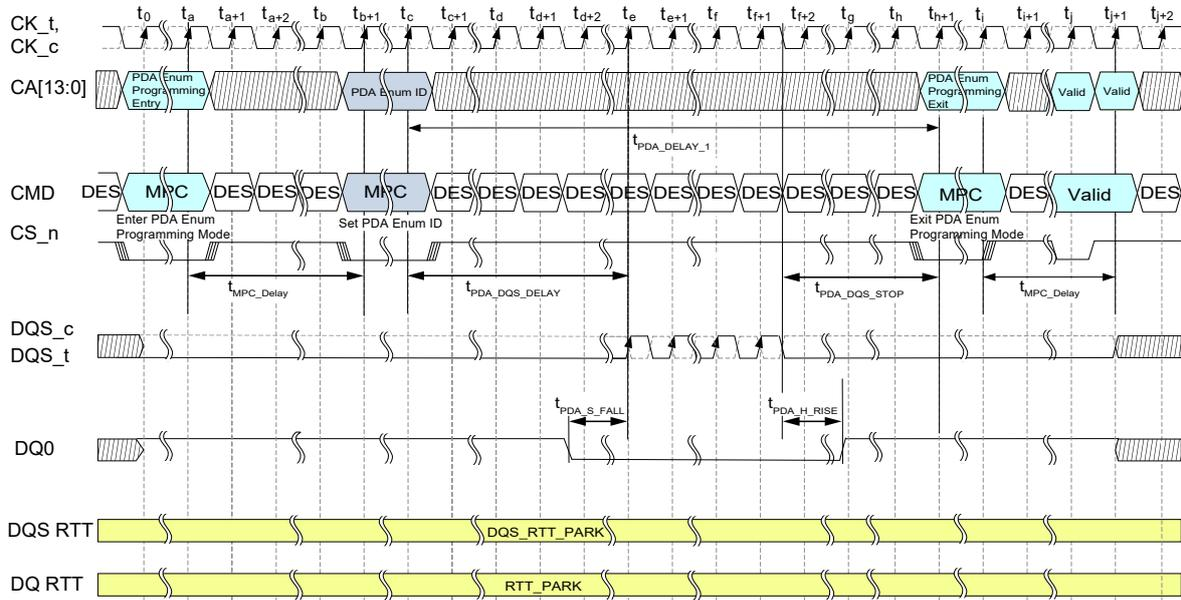
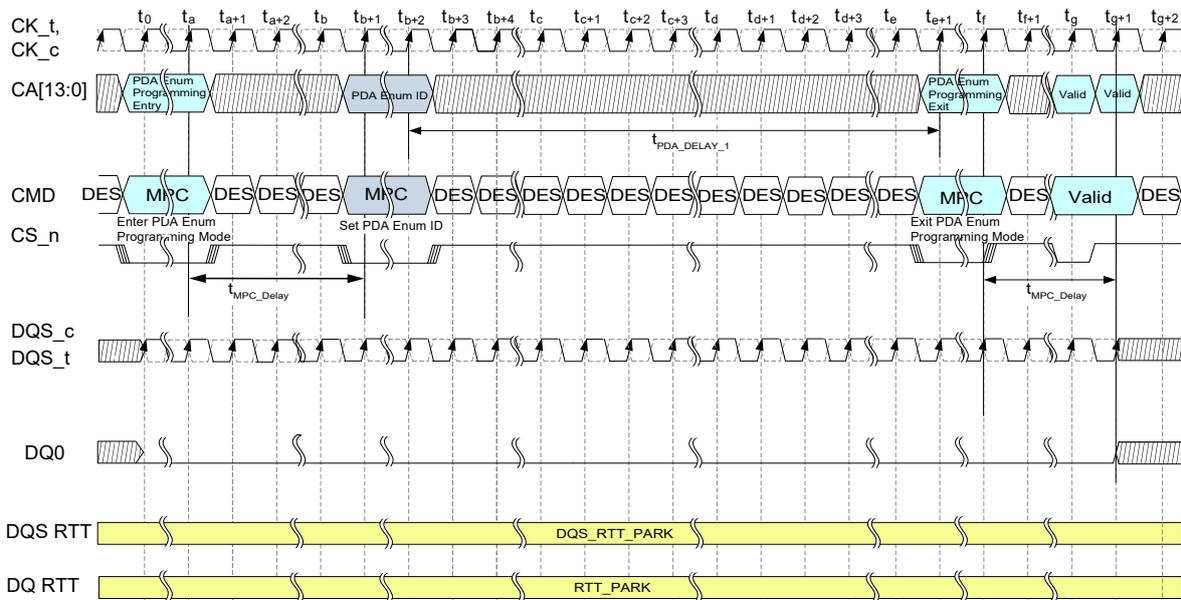
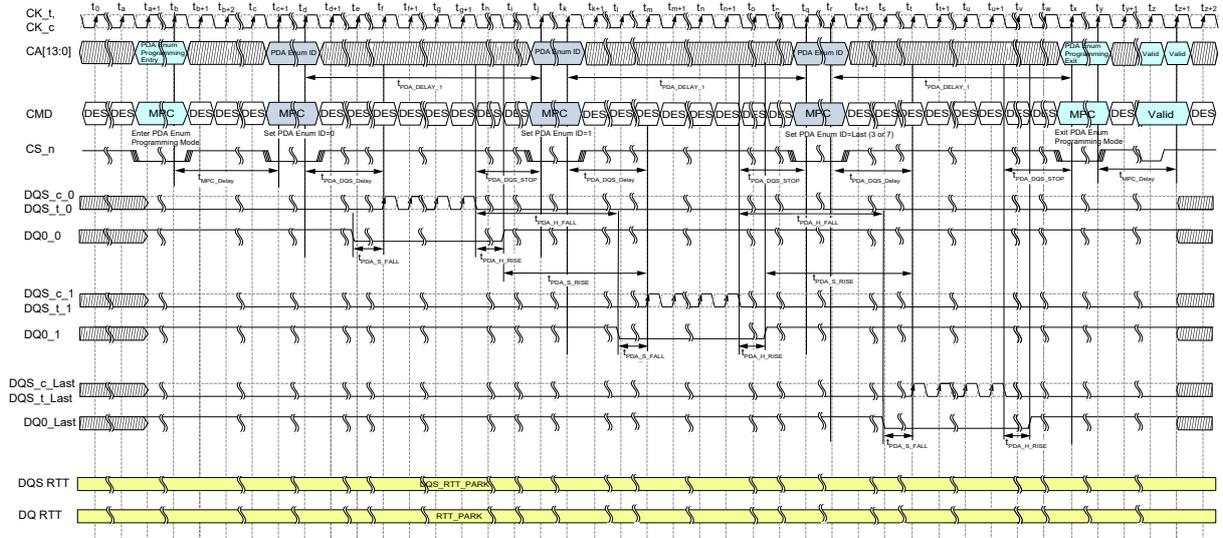
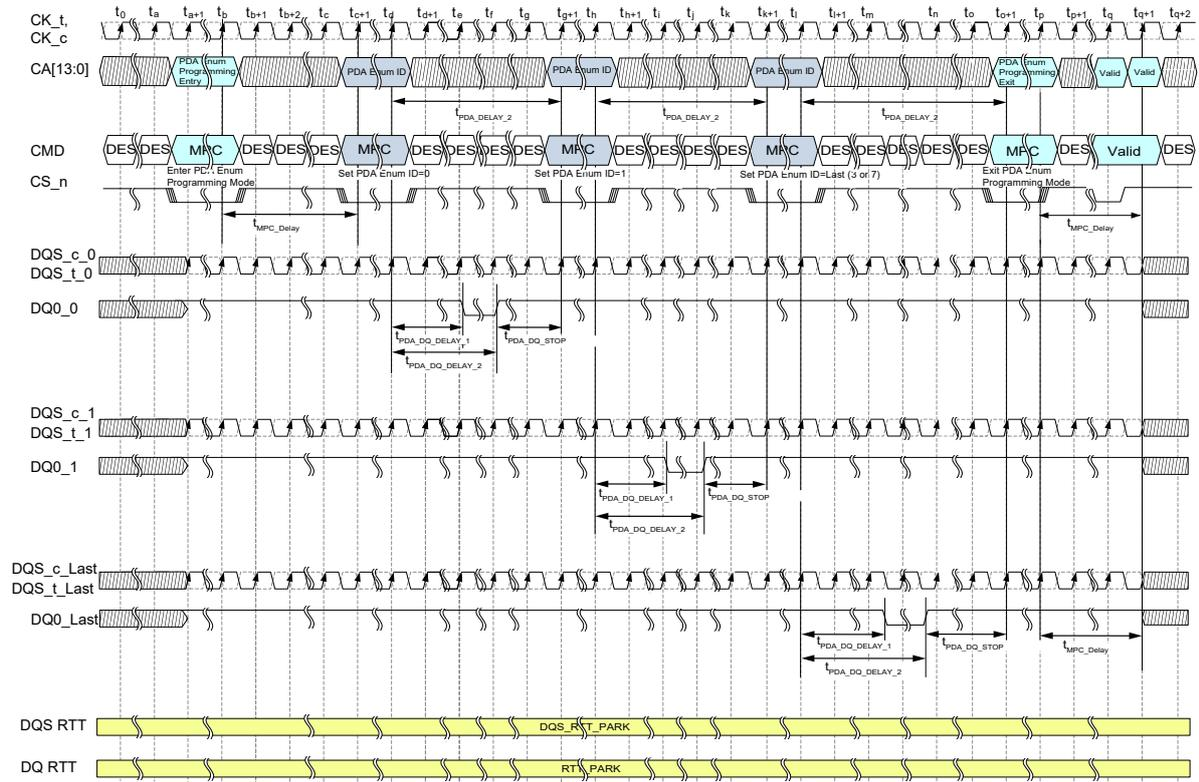

Figure 80 — Single Device PDA Enumerate Programming in Legacy Mode
Figure 81 — Single Device PDA Enumerate Programming in Continuous DQS Toggle Mode
Figure 82 — Multi-Device PDA Enumerate Programming in Legacy Mode with dedicated DQS
Figure 84 — Multi-Device PDA Enumerate Programming in Continuous DQS Toggle Mode
- In the PDA Enumerate Programming Mode, only the MPC command with PDA Enumerate ID opcode is qualified with DQ0 for x4/x8 and DQL0 for x16. The DRAM captures DQ0 for x4/x8 and DQL0 for x16 by using DQS_c and DQS_t for x4/x8 DQSL_c and DQSL_t for x16 signals as shown in Figure 80, where DQ is driven low after the SET PDA Enumerate ID command, and DQS starts toggling at tPDA_DQS_DELAY, and DQ is held until after DQS stops toggling. An alternate method is shown in Figure where DQ is driven low and DQS toggles continuously starting prior to the SET PDA Enumerate ID command, and remains toggling until the Exit PDA Enumerate Programming Mode command has finished. If the value on DQ0 for x4/x8 or DQL0 for x16 is 0 then the DRAM executes the MPC command to set the PDA Enumerate ID. The controller may choose to drive all the DQ bits. Only the MPC command with PDA Enumerate ID opcodes will be supported in PDA Enumerate Programming Mode, and the MPC command to exit PDA Enumerate Programming Mode does not require a DQ qualification.
- For the "don't enumerate" case where the SDRAM ignores the PDA Enumerate ID MPC command in the PDA Enumerate Programming Mode, the DQS_t/DQS_c and DQ signals (DQSL_t/DQSL_c and DQL/DQU for x16) may be high (driven or due to RTT_PARK termination) prior to sending the MPC command to enter PDA Enumerate Programming Mode. After entering PDA Enumerate Programming Mode, the DQS and DQ signals must remain high (driven or due to RTT_PARK termination) until exiting PDA Enumerate Programming Mode. Holding the signals high will ensure that this DRAM is never set to a PDA Enumerate ID other than the default setting of 0xFH (15). Timing diagram example shown in Section 4.16.1.2.
8. The MPC PDA Enumerate ID command cycle time is defined as tPDA_DELAY. This time is longer than the normal MPC_Delay and must be met in order to provide the DRAM time to latch the asserted DQ and complete the write operation to the PDA Enumerate ID mode register (MR1:OP[3:0]), prior to the next MPC PDA Enumerate ID command shown in Figure 80.
For a multi-device PDA Enumerate ID operation, host may choose either reiterate single device enumeration as plotted in Figure 80 and Figure 81, or follow suggested multi-device enumeration sequences as plotted in Figure 82 through Figure 84.